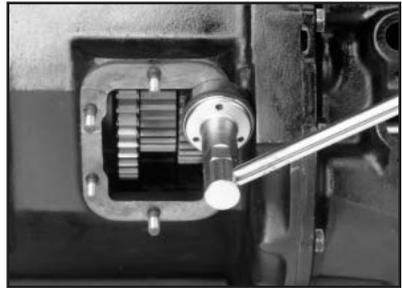

Figure 7
7. Bench mount the adapter to the PTO. Install the appropriate length studs in the adapter body (**Fig. 7**).